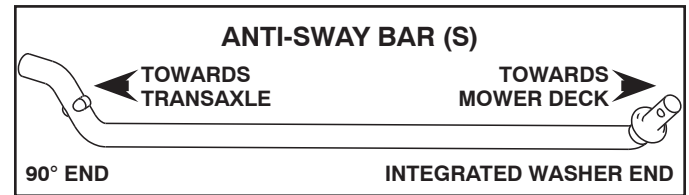

Fig. 8
## 5. INSTALL ANTI-SWAY BAR (S) (IF EQUIPPED) (See Fig. 8 - 10)